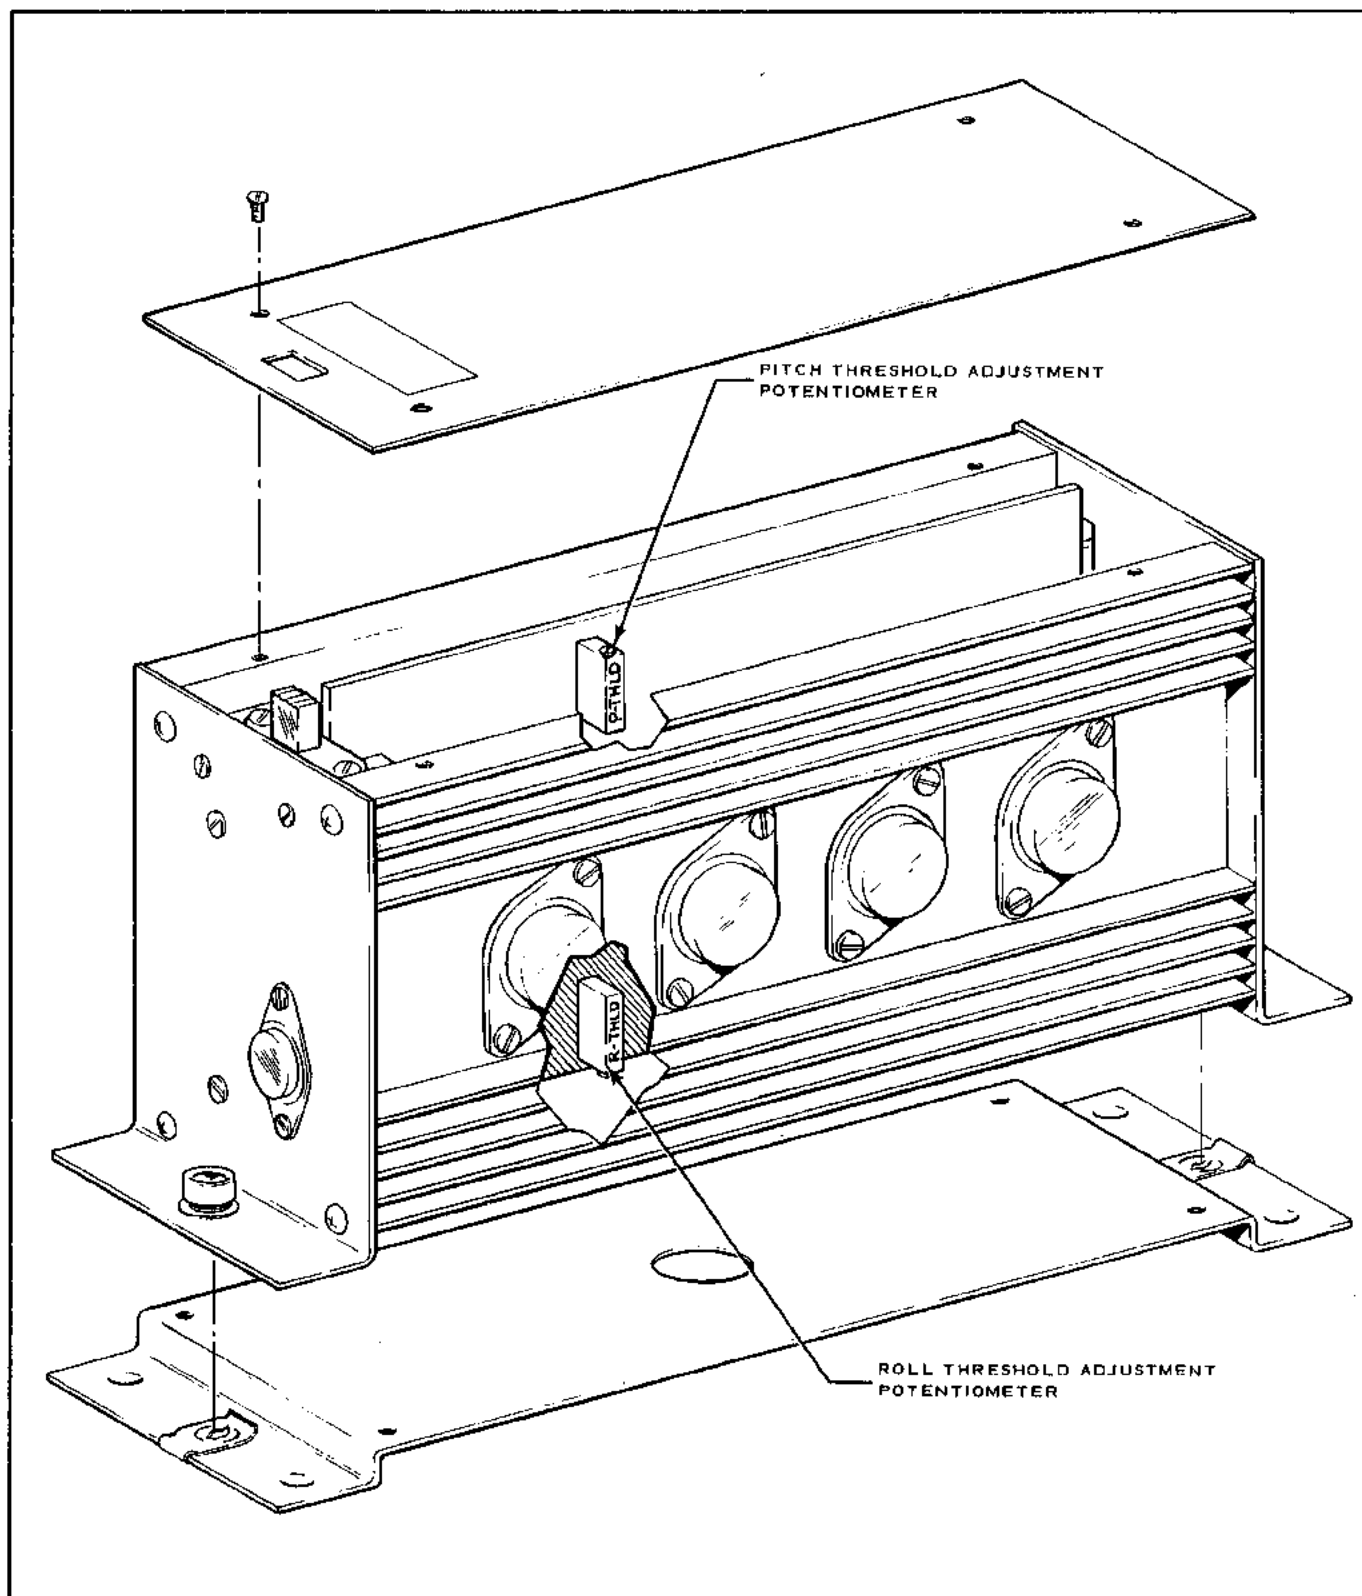

Figure 5-2. AltiMatic IIIC, 1C515-1/1C515-3 Amplifier
Remove the base plate from the bottom of the amplifier to gain access to the roll threshold adjustment potentiometer. (Refer to Figure 5-2.)
13. Rotate the LARGE VERNIER CONTROL KNOB on Gyro Substitute Test Box, COUNTERCLOCKWISE for a one (1) degree left bank.
15. If voltage setting is correct proceed to next step. If voltage setting is incorrect find the Roll Threshold Adjustment Potentiometer, located on the lower section of the amplifier printed circuit board (refer to Figure 5-2), and adjust to obtain an average of the voltage settings listed in Table V-I by repeating Steps 11 thru 14.
Remove the cover plate from the top of the amplifier to gain access to the Pitch Threshold Adjustment Potentiometer. (Refer to Figure 5-2.)
16. If voltage setting is correct proceed to next step. If voltage setting is incorrect find the Pitch Threshold Adjustment Potentiometer, located on upper section of amplifier printed circuit board, (refer to Figure 5-2) and adjust to obtain an average of the voltage setting listed in Table V-II by repeating Steps 12 thru 15.